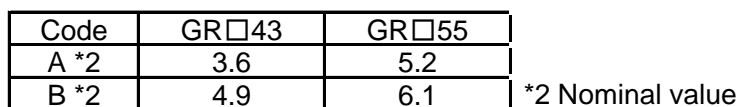

Fig.1 Package Chips
1.6 Chip in the tape is enclosed by top tape and bottom tape as shown in Fig.1.